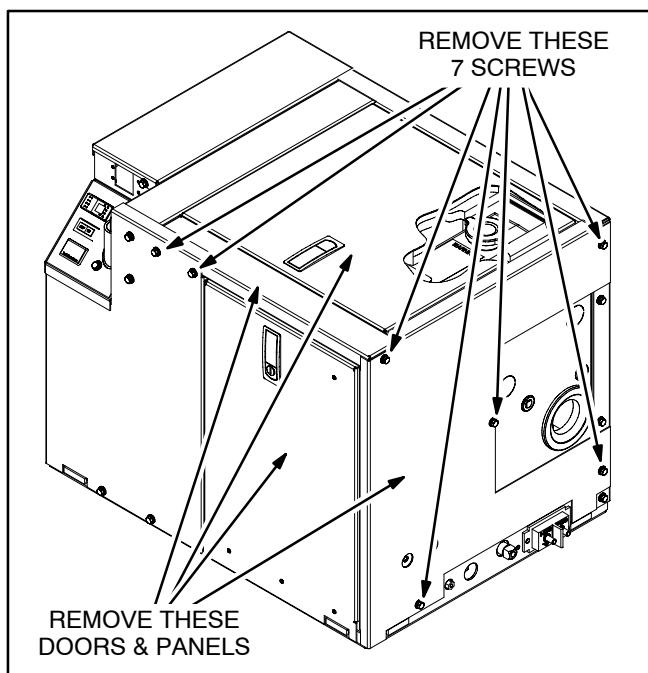
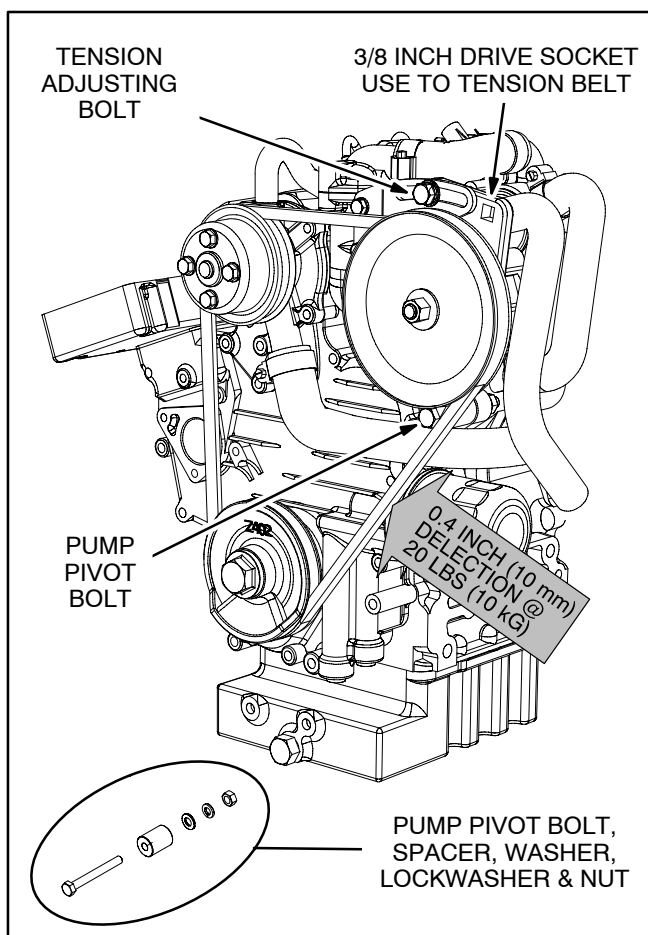
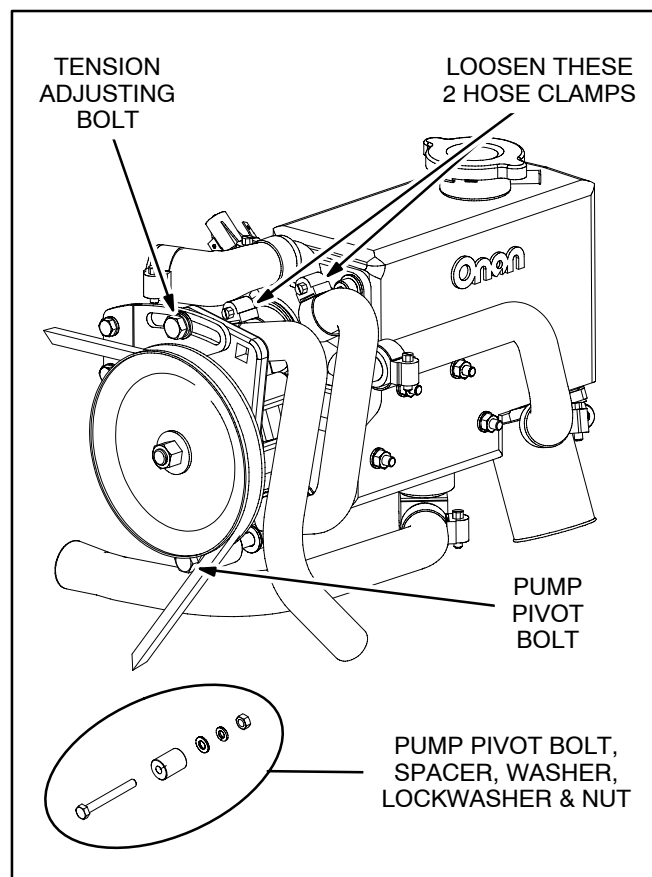

FIGURE 4-6. REMOVING ACCESS PANELS
FIGURE 4-7. ADJUSTING V-BELT TENSION
FIGURE 4-8. REMOVING RAW WATER PUMP
2. Remove the front and top access doors. If work space is limited, remove the end panel (Figure 4-6) to be able to hold the nut on the pump pivot bolt (Figure 4-7) with an open-end wrench while loosening the bolt.
See Table 4-1 for scheduled replacement. Have towels and containers ready and avoid spilling raw water on the electrical components below the pump. Referring to Figures 4-8 and 4-9, replace the impeller as follows:
3. Remove the front and top access doors. If work space is limited, remove the end panel (Figure 4-6) to be able to hold the nut on the pump pivot bolt (Figure 4-8) with an open-end wrench while loosening the bolt.
4. Loosen the hose clamps shown in Figure 4-8 and disconnect the hoses.